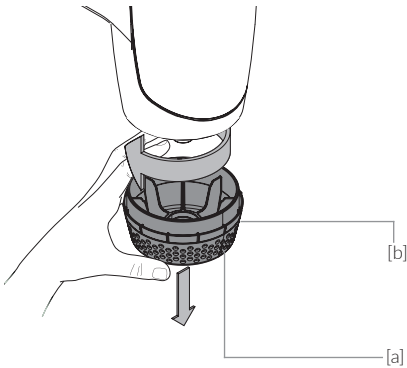

Fig. 8.5
- / Fig. 8.5: Turn the cover [a] in the direction of the arrow, loosen completely and remove together with the month ring [b]
- / to relieve the pressure according to chapter 8.3, Fig. 8.5, turn the cover [d] by 90° in the direction of the arrow